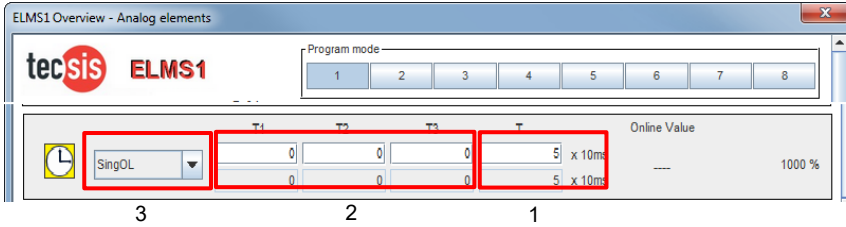

Fig. 30 ELMS1 Overview – analogue elements – shut-off delays
**The shut-off delays for the individual overloads (SingAOL –SingDOL) can be adapted using the “SingOL” block. (see point 3 in Fig. 30)**